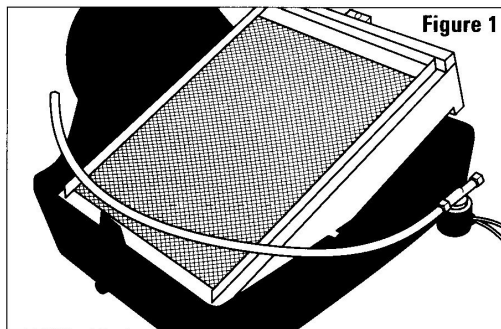

Figure 1
**1.** Remove front cover by pressing center tabs on top and bottom of the cover (1) and base (2). Pull feed tube (3) out of water distribution tray (4). Lift the Water Panel Evaporator assembly out of the base. (See Figure 1)